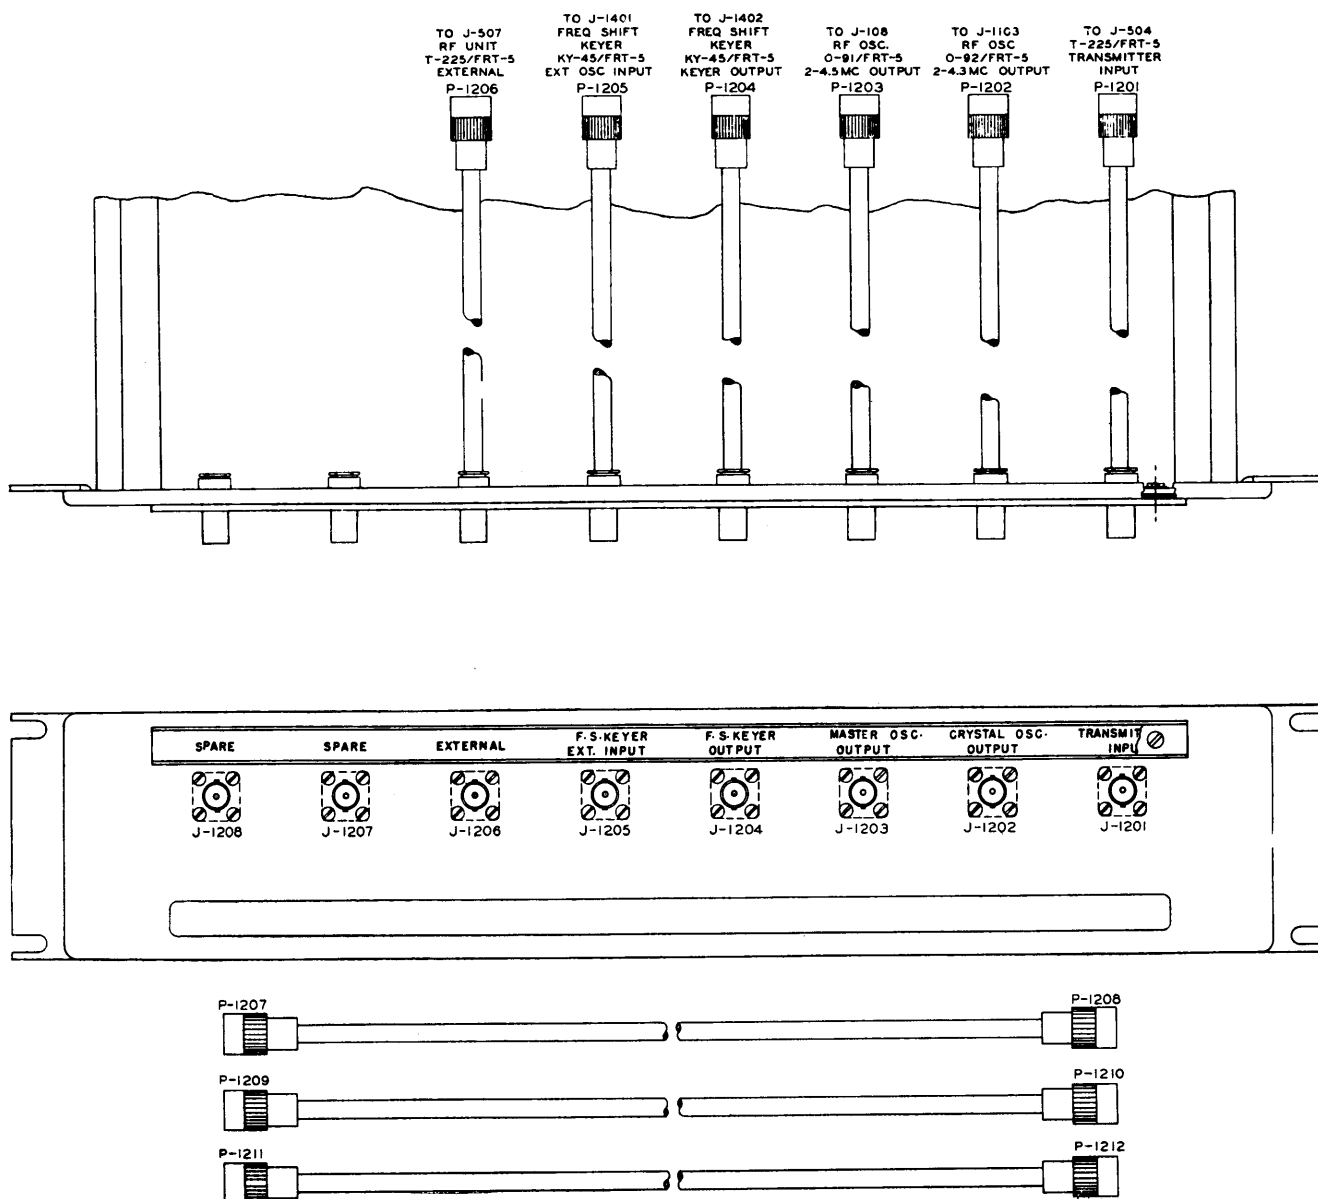
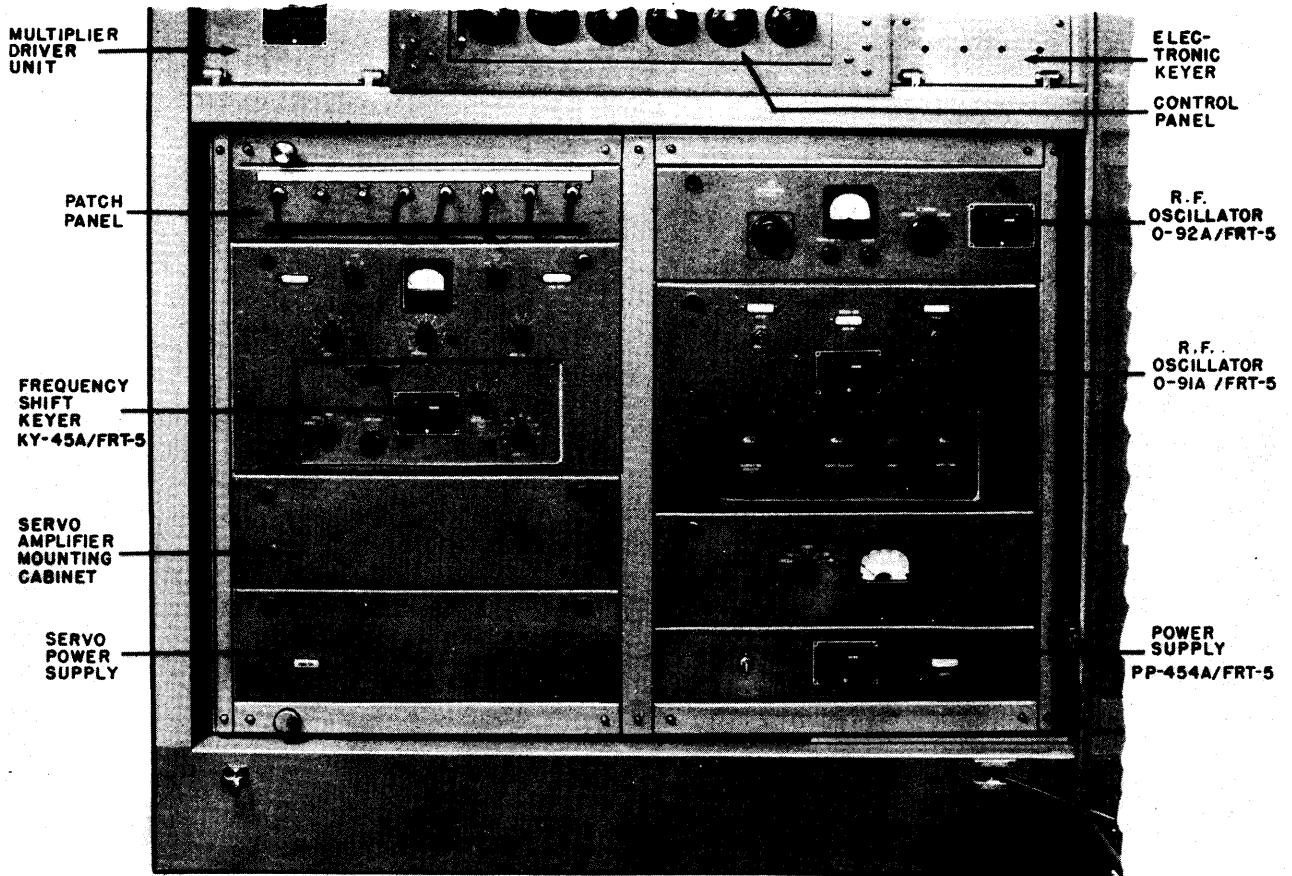
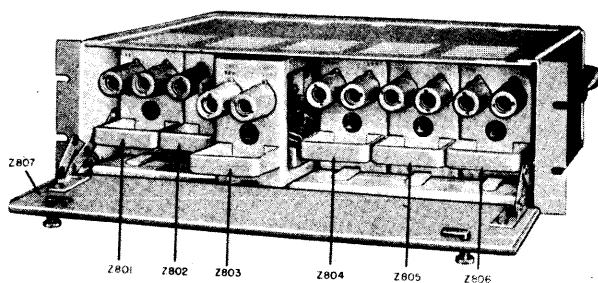

Figure 3-9. Outline Drawing — RF Unit T-225A/FRT-5, Patch Panel Showing Interconnecting Cables and Patch Cords
Figure 3-11. RF Unit T-225A/FRT-5, Front View of Lower Portion, Door Open, Showing Rack-Mounted Equipment
Figure 3-12. RF Unit T-225A/FRT-5, Servo Amplifier Mounting Cabinet, Front View, Hinged Panel Lowered Showing Six Plug-in Units
(1) PATCH PANEL. — The interconnection or patch panel illustrated in figure 3-9 is used to inter-connect the various exciters, and/or to connect them to the transmitter input, as required. It is mounted in the upper left corner of the equipment rack as shown in figure 3-11. Connectors J1201 and J1206 on the patch panel should be connected to J504 and J507, respectively, on the r-f unit.
(2) RF OSCILLATOR O-92A/FRT-5. — (Refer to figure 1-4.) — Mount this crystal-controlled oscillator unit in the upper right-hand corner of the mounting rack in RF Unit T-225A/FRT-5, as shown in figure 3-11. Use the cables that are mounted behind the rack to connect the output connector (J1103) on the oscillator to J1202 on the patch panel, and to connect the high voltage connector (J509), located behind the rack, to J1102 on the oscillator. Connect J513
(3) SERVO POWER SUPPLY (Z901). — Mount the servo power supply (figures 7-18 thru 7-21) in the lower left-hand corner of the mounting rack in RF Unit T-225A/FRT-5, as shown in figure 3-11. There are no connections to be made to this unit until the servo amplifier unit is installed.
(4) SERVO AMPLIFIER MOUNTING CABINET (Z807). — This unit (figures 3-12 and 7-14) is installed just above the servo power supply in the rack, as shown in figure 3-11. The six servo amplifier units (Z801 thru Z806) are slid into this cabinet as shown
in figure 3-12. Connectors P901 and P802 on the cables from the servo cabinet connect to J901 on the servo power supply and J517 on the r-f unit, respectively.